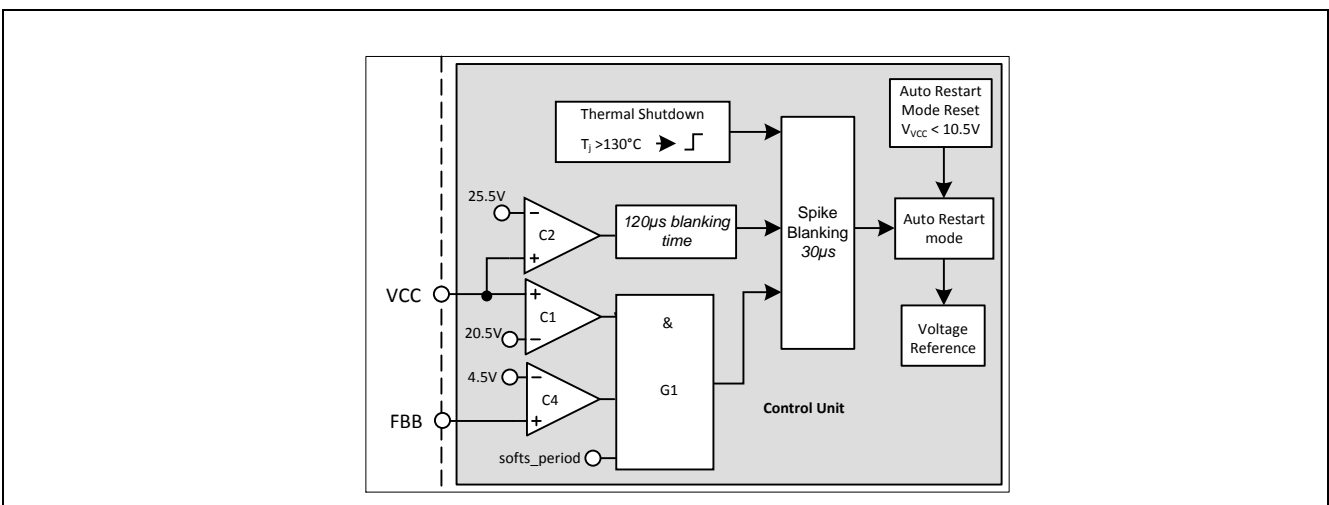

Figure 30: Vcc OVP and OTP
Vcc OVP (1) condition is when VVCC voltage is > 20.5V, VFBB voltage is > 4.5V and during soft start period, the IC enters into odd skip Auto Restart Mode. This condition likely happens during start up at open loop fault (Figure 30).
Vcc OVP (2) condition is when  $V_{VCC}$  voltage is  $> 25.5V$ , the IC enters into odd skip Auto Restart Mode (Figure 30).
The over temperature protection OTP is sensed inside the controller IC. The Thermal Shutdown block keeps on monitoring the junction temperature of the controller. After detecting a junction temperature higher than  $130^{\circ}C$ , the IC will enter into the non switch Auto Restart mode. The ICE3AR1580VJZ has also implemented with a  $50^{\circ}C$  hysteresis. That means the IC can only be recovered when the controller junction temperature is dropped  $50^{\circ}C$  lower than the over temperature trigger point (Figure 30).